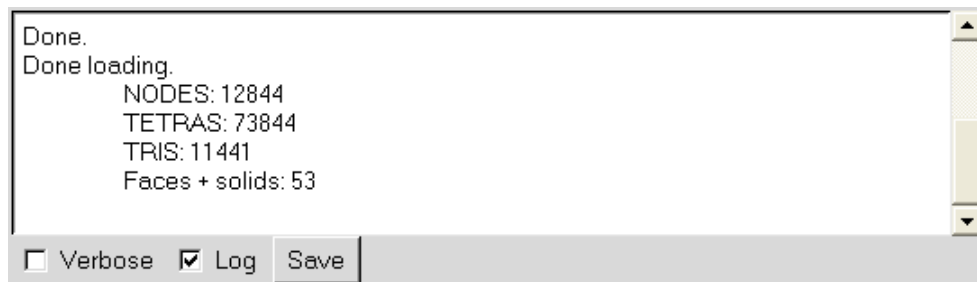

Figure 2.1.30: Sample **Message** Window
The **Message** window (Figure 2.1.30) is located below the graphics window. **Airpak** communicates with you through its **Message** window. It is used to display informative messages, such as those relating to meshing or solution procedures, as well as error messages and instructions. **Airpak** saves all information that is written to the **Message** window in memory. You can review this information at any time by using the scroll bar on the right-hand side of the **Message** window. To instruct **Airpak** to display more detailed messages related to the meshing and solution procedures, select the **Verbose** option in the **Message** window.
1. Select the **Log** option in the **Message** window (Figure 2.1.30). A **File selection** dialog box appears. The default name (**messages.log**) for the log file will appear in the **File name** field at the bottom of the **File selection** dialog box.